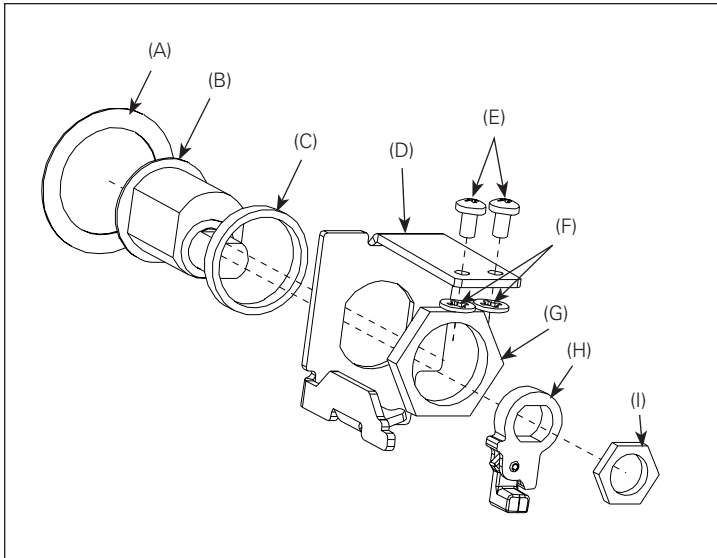

Figure 1. Contents of Kit
Refer to **(Figure 1)** for visual identification of the parts listed below:
Step 4: Refer to (Figure 1) for assembly orientation. Mount the Lock (B) to the Mounting Bracket (D). Secure it in place with the Large Locking Nut (G). Ensure that the large locking nut is firmly tightened.
Step 5: Install the Key Lock Lever (H) onto the back of the lock and secure it in place with the Small Locking Nut (I). Ensure that the small locking nut is firmly tightened. Three different assembled lock orientations are presented here for reference purposes.